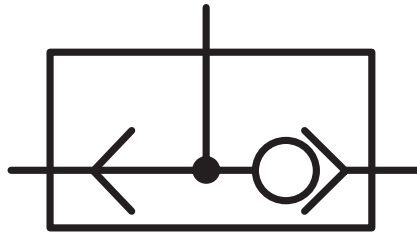

Fig. 1
- (c) Fig. 1 shows a pneumatic symbol.